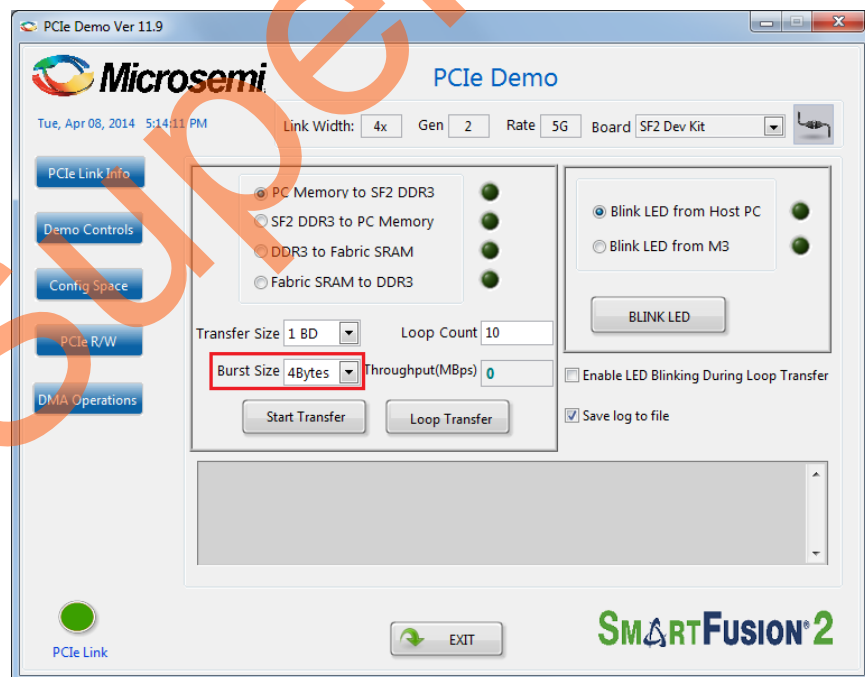

Figure 17 • Transfer Size Selection
6. The **Burst Size** (TLP size) is fixed to 4 bytes as the HPDMA does not support burst and the actual size of the PCIe packet is the width of a single AHB transfer which is 4 bytes (32-bit AHB) as shown in Figure 17.